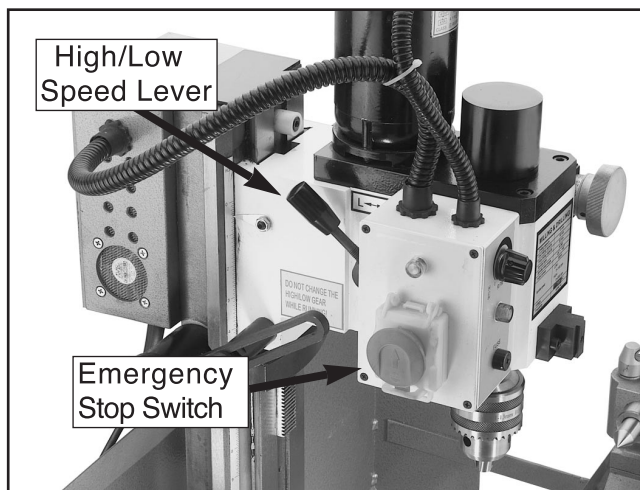

Figure 4. Mill/drill controls.
3. Familiarize yourself with the mill/drill controls shown in **Figure 4 and 5**.